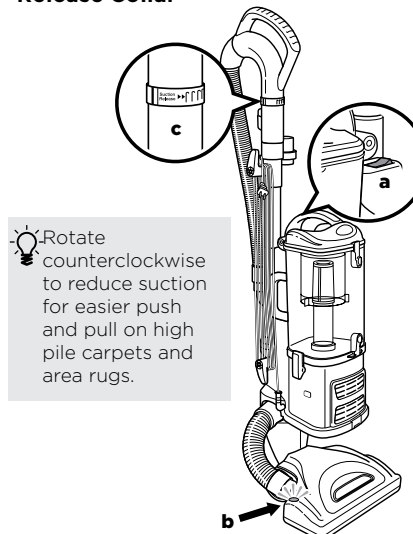

Fig. 10
- 3 Press the On/Off switch (a) to the "I" position to vacuum bare floors (straight suction only) or to the "II" position to engage the motorized brushroll (for vacuuming carpets and rugs). (Fig. 10)
IMPORTANT: The brushroll indicator light (b) will illuminate green when the brushroll is on, or red if there is a blockage or jam. (Fig. 10) This feature is designed to protect your Lifetime Belt that powers your brushroll. See Checking for Blockages section for more information.
- 5 Due to the huge suction power of this vacuum, it may become necessary at times to adjust the suction release collar (c) on the handle. (Fig. 10) If the vacuum seems difficult to push or pull, or if it is lifting area rugs, rotate the suction release collar counterclockwise to reduce suction. Rotate the collar clockwise to increase suction.